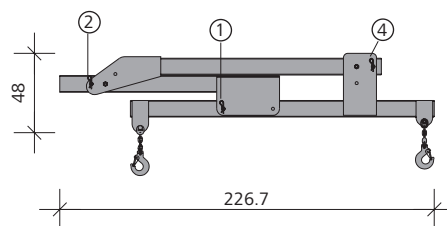
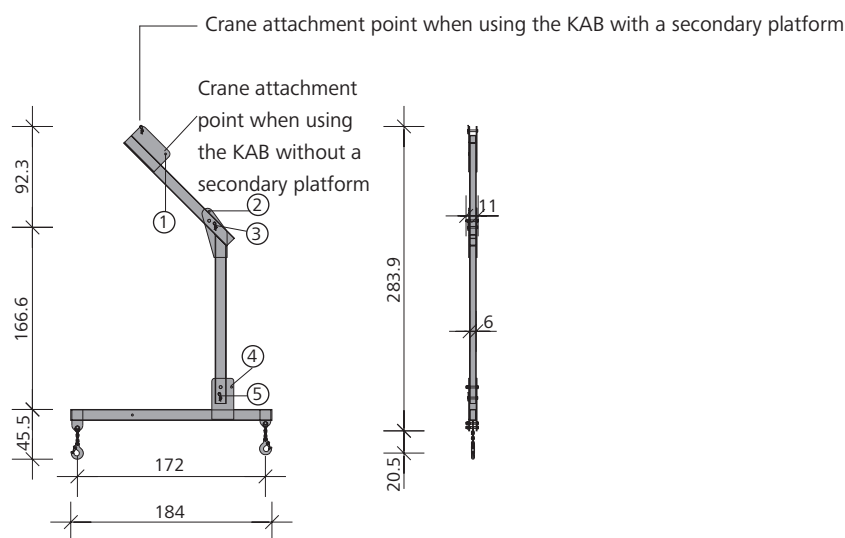

Fig. 15.1
Fig. 15.2
For transport purposes, the transport spreader KAB must be folded and secured at the positions (2), (1) and (4) using head bolts 16/90 and cotter pins 4 (Fig. 15.1).
On the construction site, remove the head bolts 16/90 and cotter pins 4 from their previous positions (Fig. 15.1). Then unfold the transport spreader and insert head bolts and cotter pins at positions (3) and (5) to secure the transport spreader (Fig. 15.2).